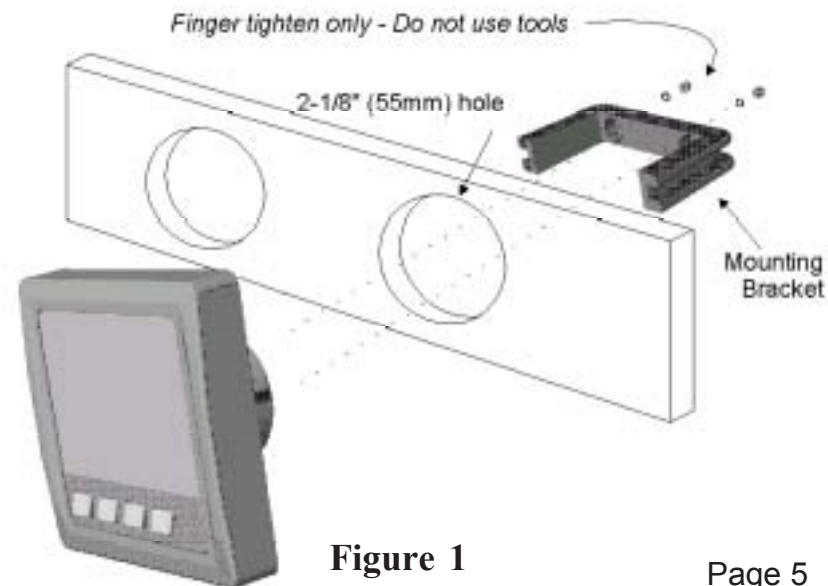

Figure 2
- Connect the various wires from Cable 1 and Cable 2 as shown in Figures 2 and Figure 3. **Be sure that the power ground connection (Black wire on cable #1) connects all the way back to the shunt as shown and is not shared with any other equipment.**
- Carefully check all your wiring against figures 2 and 3 and then mount the instrument in the hole. Use only finger tension to tighten the bracket hold-down nuts